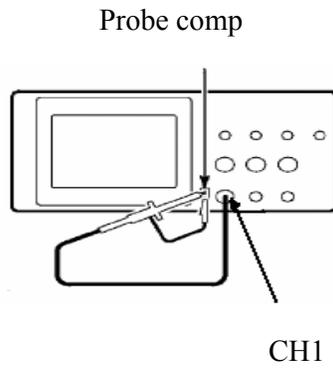

Fig. 5 Connection of the Probe
Connect the probe tip and the ground clamp to the connector of the probe compensator, shown as Fig. 5.
1. Set the attenuation coefficient of the probe in the menu as 10X and that of the switch in the probe as 10X, and connect the oscilloscope probe with the CH1 channel. If a probe hook tip is used, ensure that it keeps in close touch with the probe. Connect the probe tip with the signal connector of the probe compensator and connect the reference wire clamp with the ground wire connector of the probe connector, and then press the button AUTOSSET (see Fig. 5).